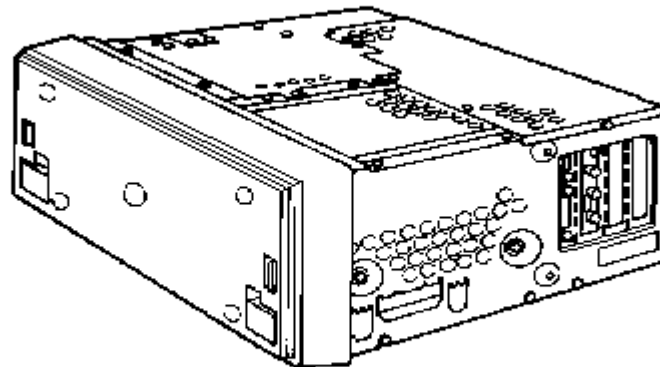

Figure 7-10. Returning the Computer to a Flat Position on the Work Surface
3. Lower the rear portion of the computer so that it rests flatly against the work surface (Figure 7-10).